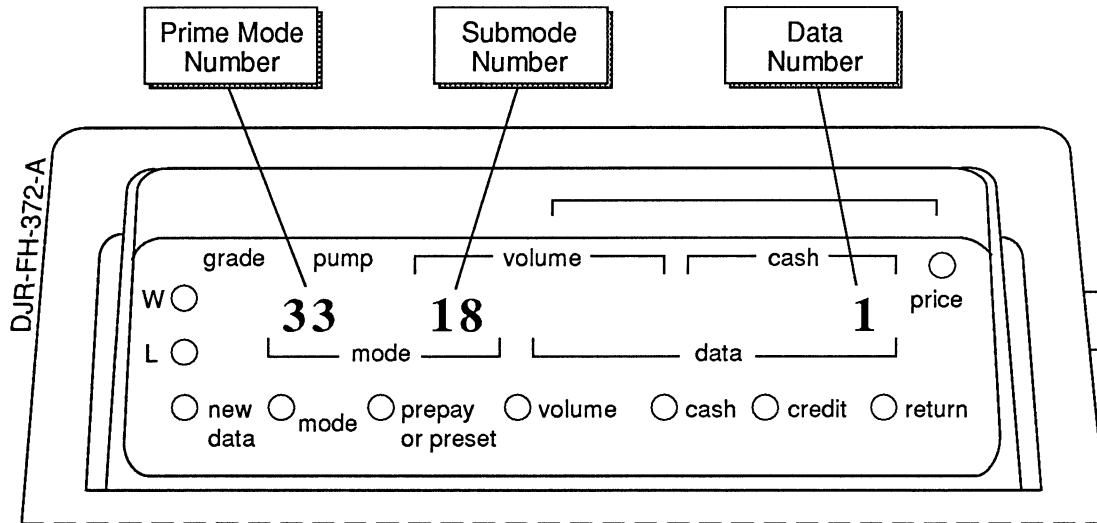

FIGURE 3-2. MODE DATA LOCATION
3. Enter a two digit **Prime Mode** number on the numeric keypad. The selected prime mode number appears on the display screen. Refer to Figure 3-2.